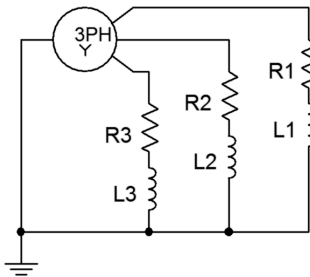

Figure 9.6
11. A 3-phase Y connected generator feeds a Y connected load consisting of 3 legs of 10Ω in series with $j4 \Omega$ of inductive reactance, as shown in Figure 9.6. If the line voltage is 208 volts, find the voltage across each load leg, the line current, and the apparent and real powers drawn by the load.
12. Given the wye-wye system of Figure 9.6, if the line voltage is 400 volts and the load is balanced with each leg at $100 + j20 \Omega$, determine the generator phase voltage, line current, generator phase current, load current, the voltage across each load leg, and the total real and apparent load powers.